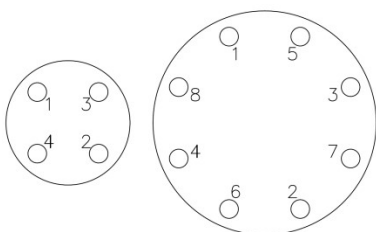

Fig. 1: Flange Bolt Torque Sequence
- 1.2.8 Using a torque wrench, tighten bolts in an alternating sequence. See Figure 1. Refer to Table 1 for recommended bolt torque.